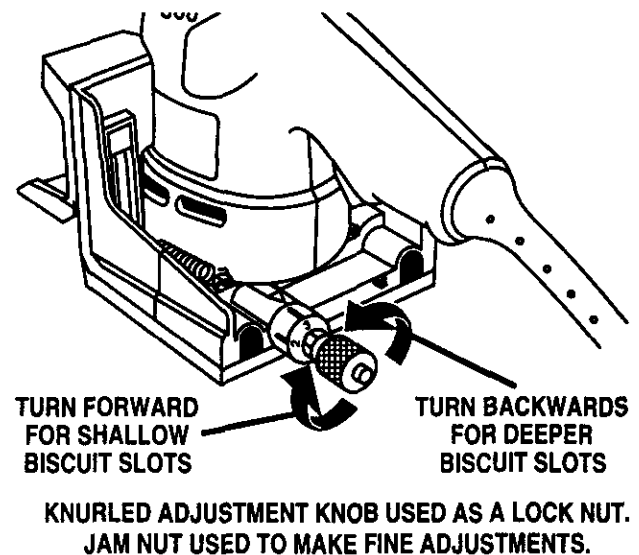

Fig. 4
See *Figure 4*.
- Recheck depth setting by making a test cut in a scrap piece of wood. Also periodically check depth setting for accuracy. See *Figure 4*.